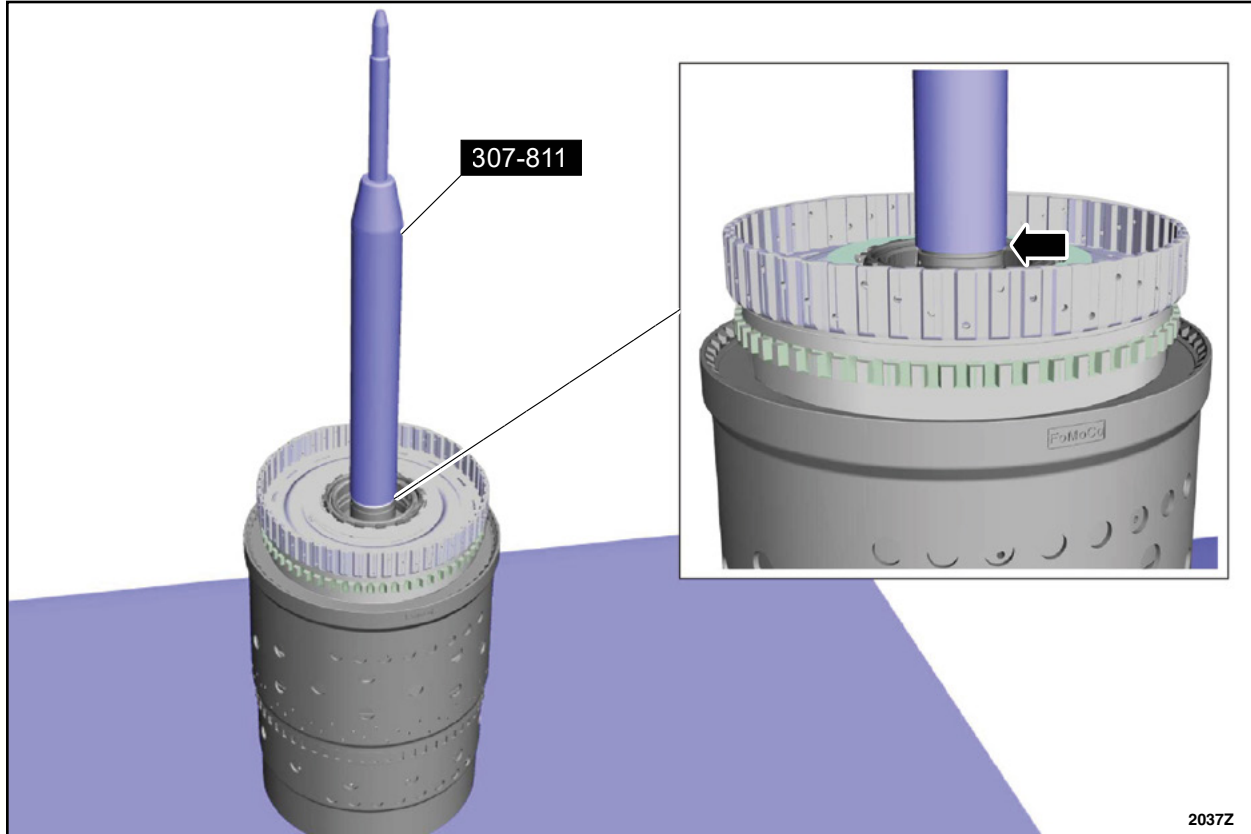

FIGURE 19
21. Install special tool 307-811 and adjust it to align the bottom edge of the tool with the top end of the groove of the Teflon® seal being replaced. See Figure 19.